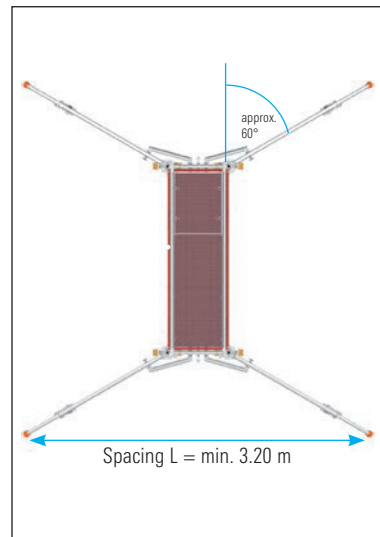

Fig. 7
**Free-standing assembly:** in each case about 60° to the tower longitudinal side (Fig. 7).